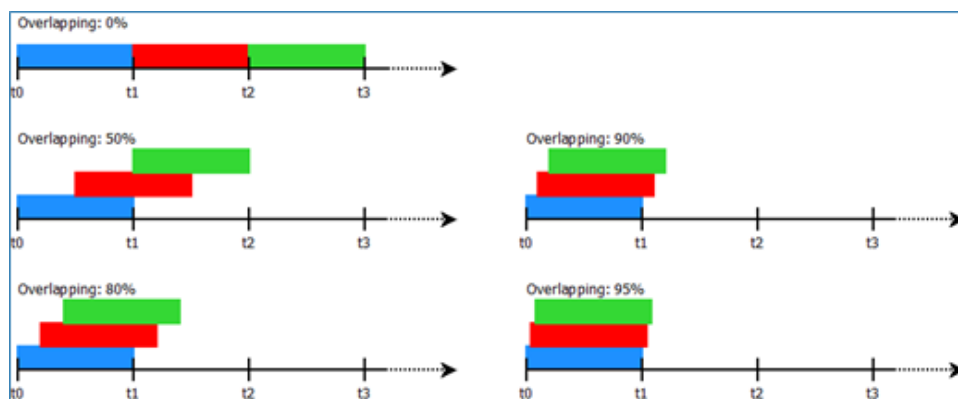

Fig. 7.84: Overlapping mechanism for the statistic calculations
- Overlap – define window overlap; see Fig. 7.84.